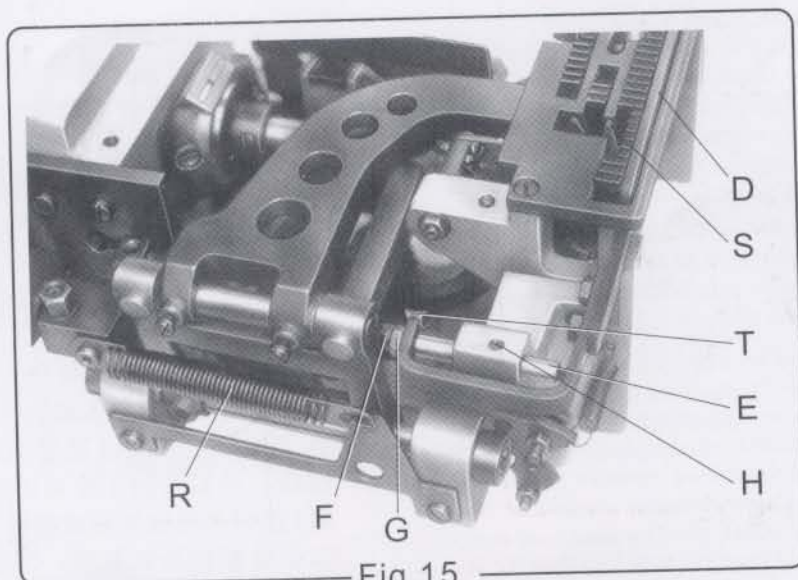
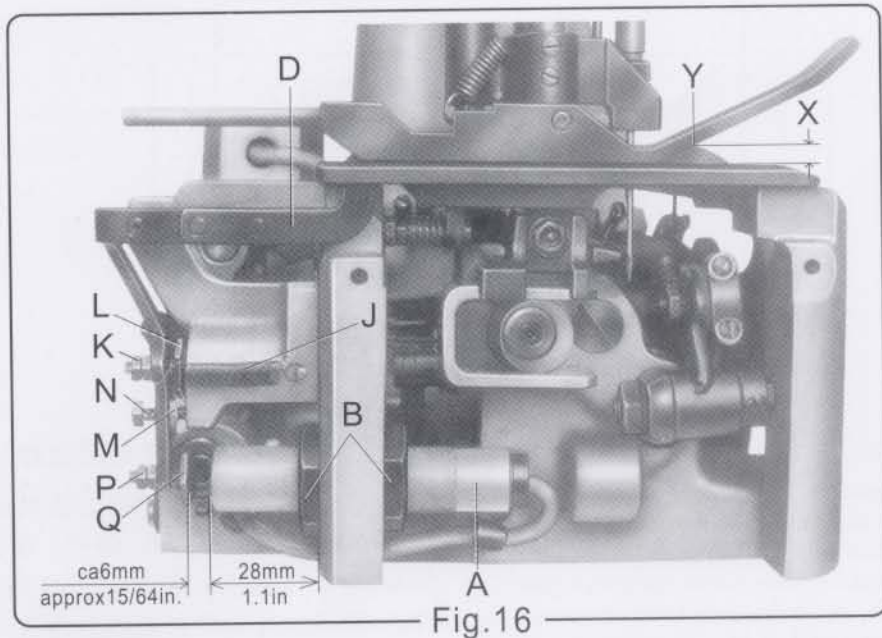

Fig. 15
Fig. 16
Model GK35-6 thread chain cutter is driven by air cylinder. When the thread chain cutter is in its home position below the throat plate, the knife tip of the chain cutter S (Fig. 15) should be positioned 0.5mm below the throat plate top surface. To obtain this, adjust the knife lever stop screw T with lock nut in the bottom of the bed casting accordingly. Retighten nut. In cutting position, above the throat plate top surface, the cutting edges of the chain cutters should overlap by 0.3mm.
Remove colth plate and left end cover, mount the electronic proximity switch A (Fig. 16) to the dimension of 28mm as shown in (Fig. 16). When retighten two plastic nut B, don't damage the proximity switch.
The feeler D (Fig. 15 and Fig. 16) is adjusted initially with the two fastening screws for the feeler support bracket. The feeler should not have any lateral play, but should turn readily. For this, loosen lock nut G (Fig. 15), turn fastening screw F in or out as required, until the feeler turn readily. Retighten lock nut G.
The feeler D should be in the centre of the throat plate and the slot of the presser foot. For this, loosen lock screw H (Fig. 15) and centre the feeler D in the throat plate and presser foot slot by moving the centring shaft E (Fig. 15) laterally. Retighten screw H.
The dimension X (Fig. 16) between upper throat plate surface and the feeler should not be less than 7mm (set as high as possible). The distance between upper edge Y of feeler and lower edge of the feeler slot cut-out in the presser foot should be approx. 1mm to prevent impacting. For adjustment, loosen nut K and turn off screw L, so that the head of screw does not contact the magnet in the feeler support bracket. Loosen nut M and turn the feeler stop screw N in or out as required, to adjust the correct feeler height X. Secure the set feeler height with lock nut M.
d. Setting the Switching Pressure (Fig. 16)
e. Setting the Switching Point (Fig.16)